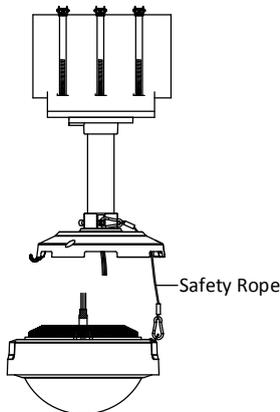

Figure 1-26 Install the Safety Rope
4. After fixing the head cover, hook the two ends of the safety rope to the bracket and the camera respectively, as shown in Figure 1-26.